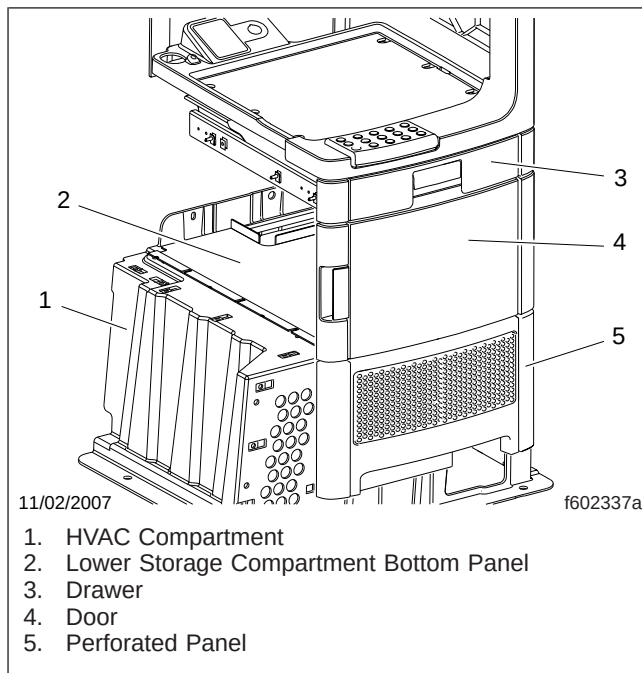

Fig. 1, Sleeper Cabinet Stack
3. Open the lower storage compartment door, and remove the panel on the bottom. See **Fig. 1**.